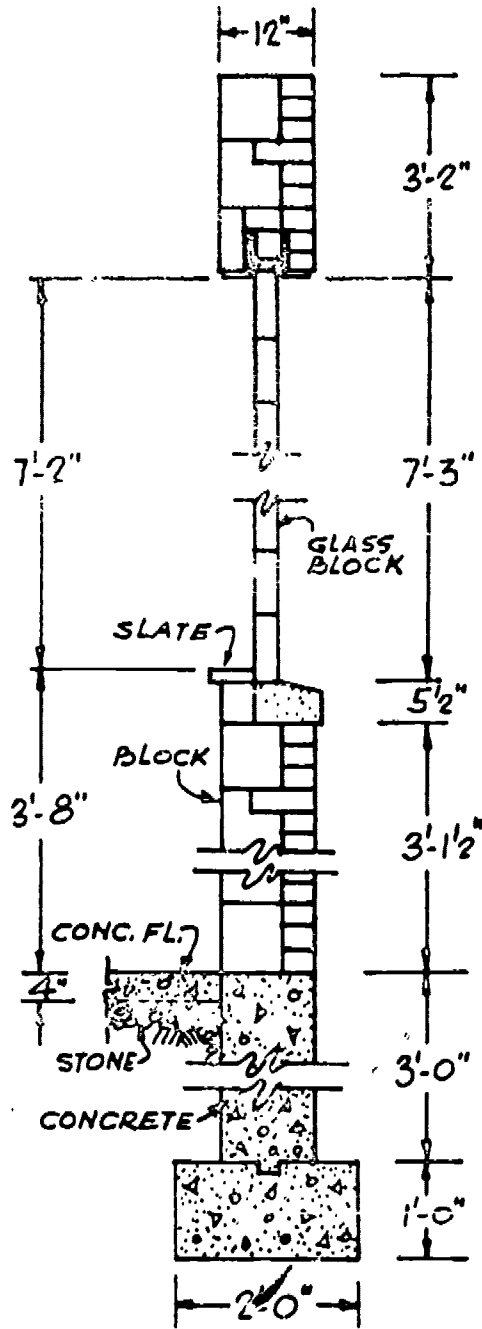

Figure 1
3. View figure 1 in this task package of a sectional view of a brick and block wall.
4. Observe figure 1 of a sectional view of a brick and block wall.